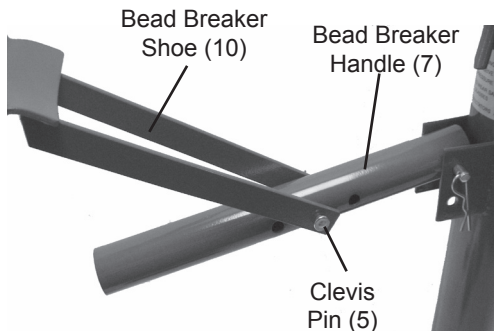

Figure 5
- Slide the end slots of Bead Breaker Shoe (10) over the mounting holes along the middle of the Bead Breaker Handle. Align with the end or middle holes (depending on which tire size, the closest hole to the Center Post being for smaller tires). Secure in place using the other Clevis Pin and R-Clip. See Figure 5, below.